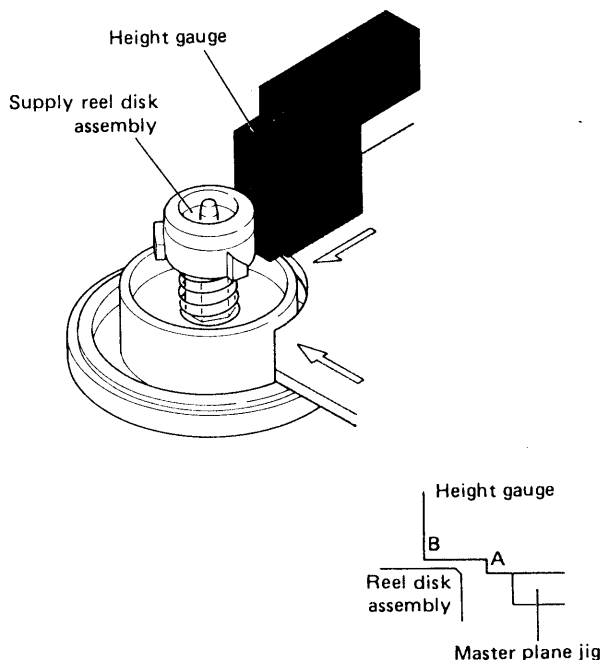

Fig. 2-19 Reel disk height check
- 3) The correct height is between planes A and B as shown in Fig. 2-19.